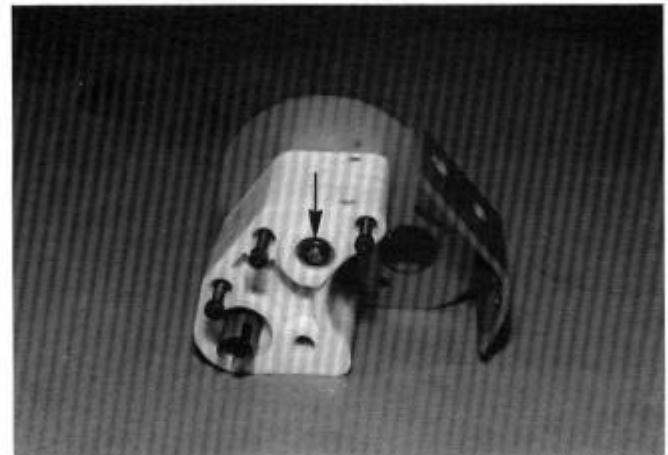

**FIG. 86**
**FIG. 86**—Take the other bearing adaptor and cut a small notch in the edge, as shown. This will make installing and removing the E-clip a lot easier. Push the bushing or ball bearing into the adaptor.